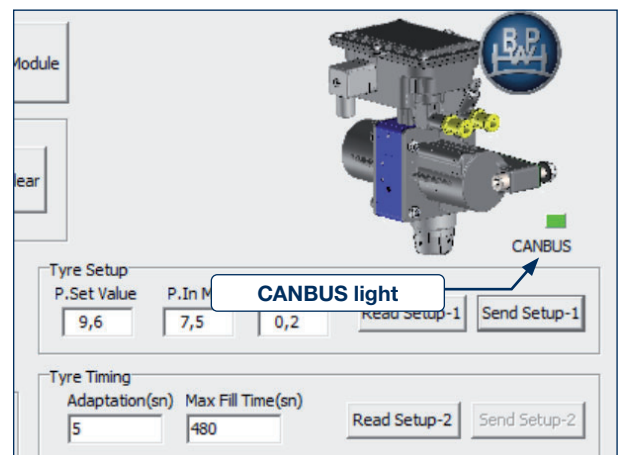

Figure 39
- [4] CAN communication is configured when the CANBUS light flashes (see Figure 39).